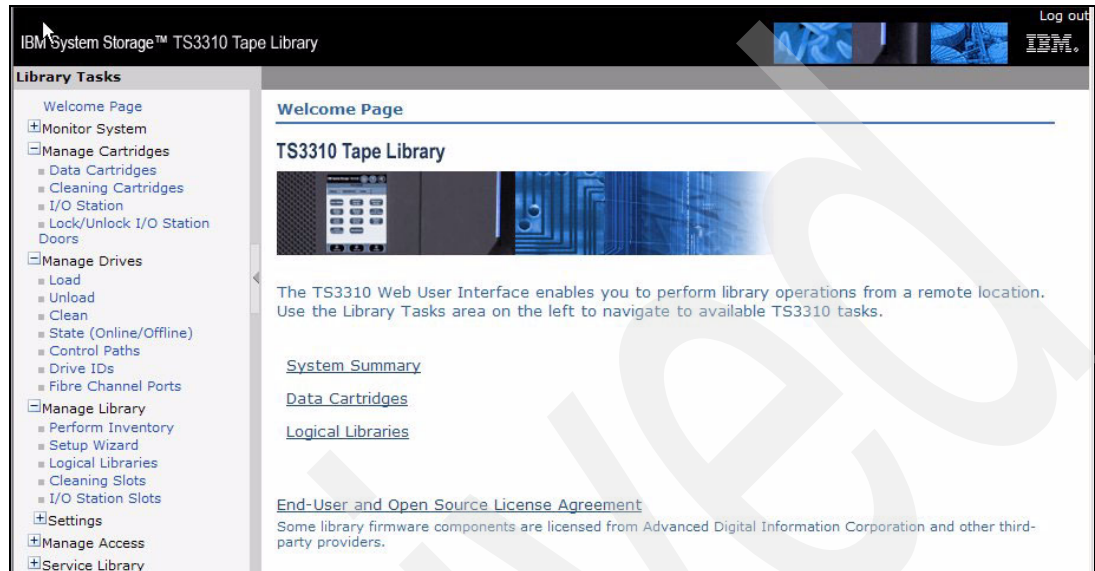

Figure 2-12 IBM TS3310 Welcome page
1. Connect to the Tape Library Specialist, and login with default ID and password: *admin / secure*. Remember to change the password for security. The welcome screen will display; see Figure 2-12.